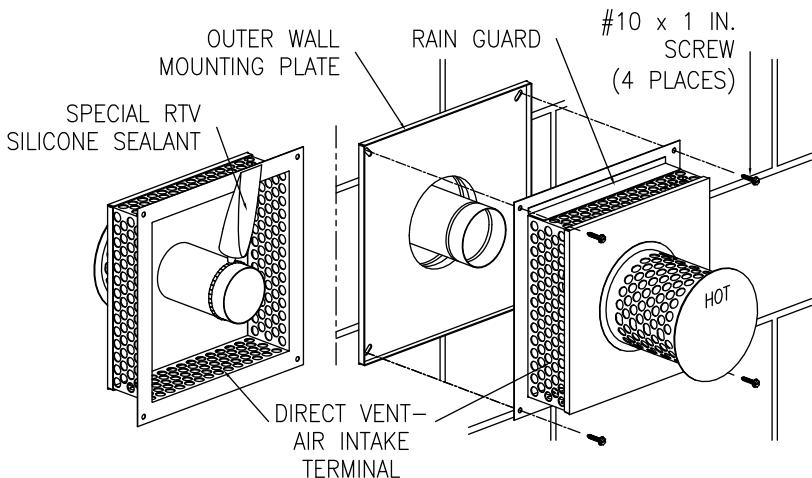

Figure 10
6. Place the straight end of the six (6) inch (15.2 cm) diameter elbow over the four (4) inch (10.2 cm) diameter elbow and plenum collar until seated on top of the plenum box. Make certain that the six (6) inch (15.2 cm) diameter elbow is oriented in the same direction as the four (4) inch (10.2 cm) diameter elbow and both are oriented in the correct direction. Drill three (3) $1/8$ inch (3.0 mm) diameter holes, 120° apart, through the six (6) inch (15.2 cm) diameter elbow into the plenum collar. Fasten with three (3) #8 sheet metal screws (supplied) (See Figure 10).
10. Using the supplied special RTV silicone sealant, apply a bead one (1) inch (2.5 cm) from the end of the four (4) inch (10.2 cm) diameter tube that is part of the vent-air intake terminal. Slide the direct vent-air intake terminal into the four (4) inch (10.2 cm) diameter telescopic tube that extends through the wall and position it so it is flush with the outer wall mounting plate. Make sure that the rain guard and the word "HOT" on the end of the direct vent-air intake terminal are oriented properly. Secure the direct vent-air intake terminal to the outer wall mounting plate and wall with four (4) #10 x 1 inch screws (supplied) (See Figure 10). Note: Certain construction of walls may require the use of different type of anchoring means than supplied. **DO NOT** modify the direct vent-air intake terminal or outer wall mounting plate.